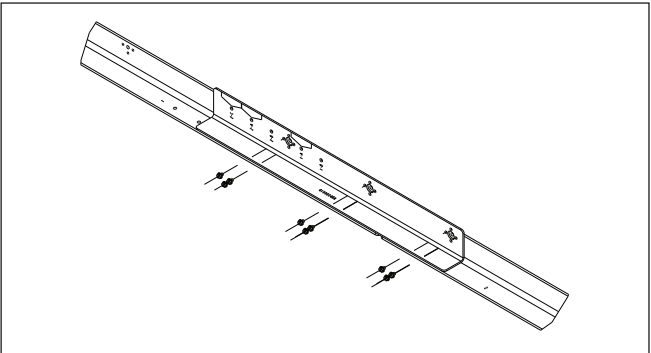

Figure 3: Attach Jig Horizontally
- b. Attach the jig (Daktronics part number 0M-4199804) to the horizontal wall angle with the supplied thread-forming screws (HC-3601959). This sets the horizontal spacing of the horizontal wall angle. Refer to **Figure 3**.